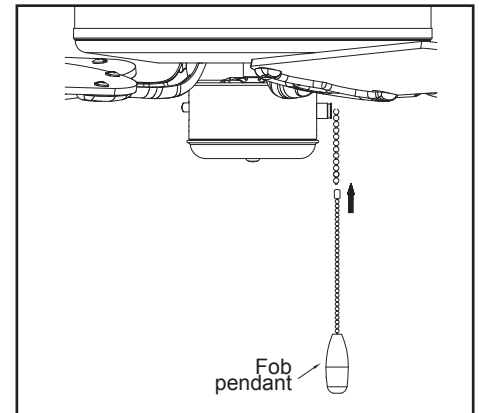

Figure 20
5. Install the pull chain extension chain and fob (Figure 20).